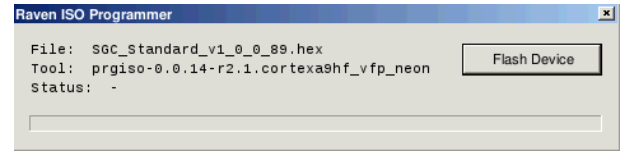

Figure 10 Raven ISO Programmer.
15. Click *Flash Device*. A window (Figure 10) appears.
16. Click on *Flash Device* in the Raven ISO Programmer (Figure 10). The *Status* will change to *BL_ERASING* and to *BL_PROGRAMMING*. Wait for the *Status* to indicate *BL_COMPLETE_ACK*, the update is finished now.